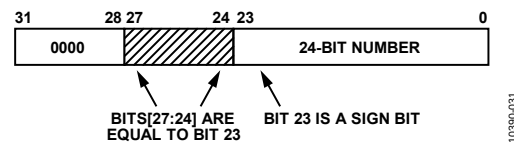

Figure 47. ZPSE Communication Format
The ADE7816 includes 8-, 16-, and 32-bit, signed and unsigned registers. All signed registers are in two's complement format. Some of the internal measurements are 24 bits long and have been extended to 32 bits prior to communication. This extension is accomplished in three different ways: sign extending (SE), zero padding (ZP), or zero padded and sign extended (ZPSE). When sign extending is used, the sign bit (Bit 23) of the two's complement signed number is duplicated in the uppermost byte prior to communication. Zero padding is achieved by writing 0s into the upper most byte prior to transmission. This format is used for unsigned numbers only. Zero padded and sign extended formats are shown in Figure 47 and involve padding the most significant bits with 0s and sign extending Bits[27:24].